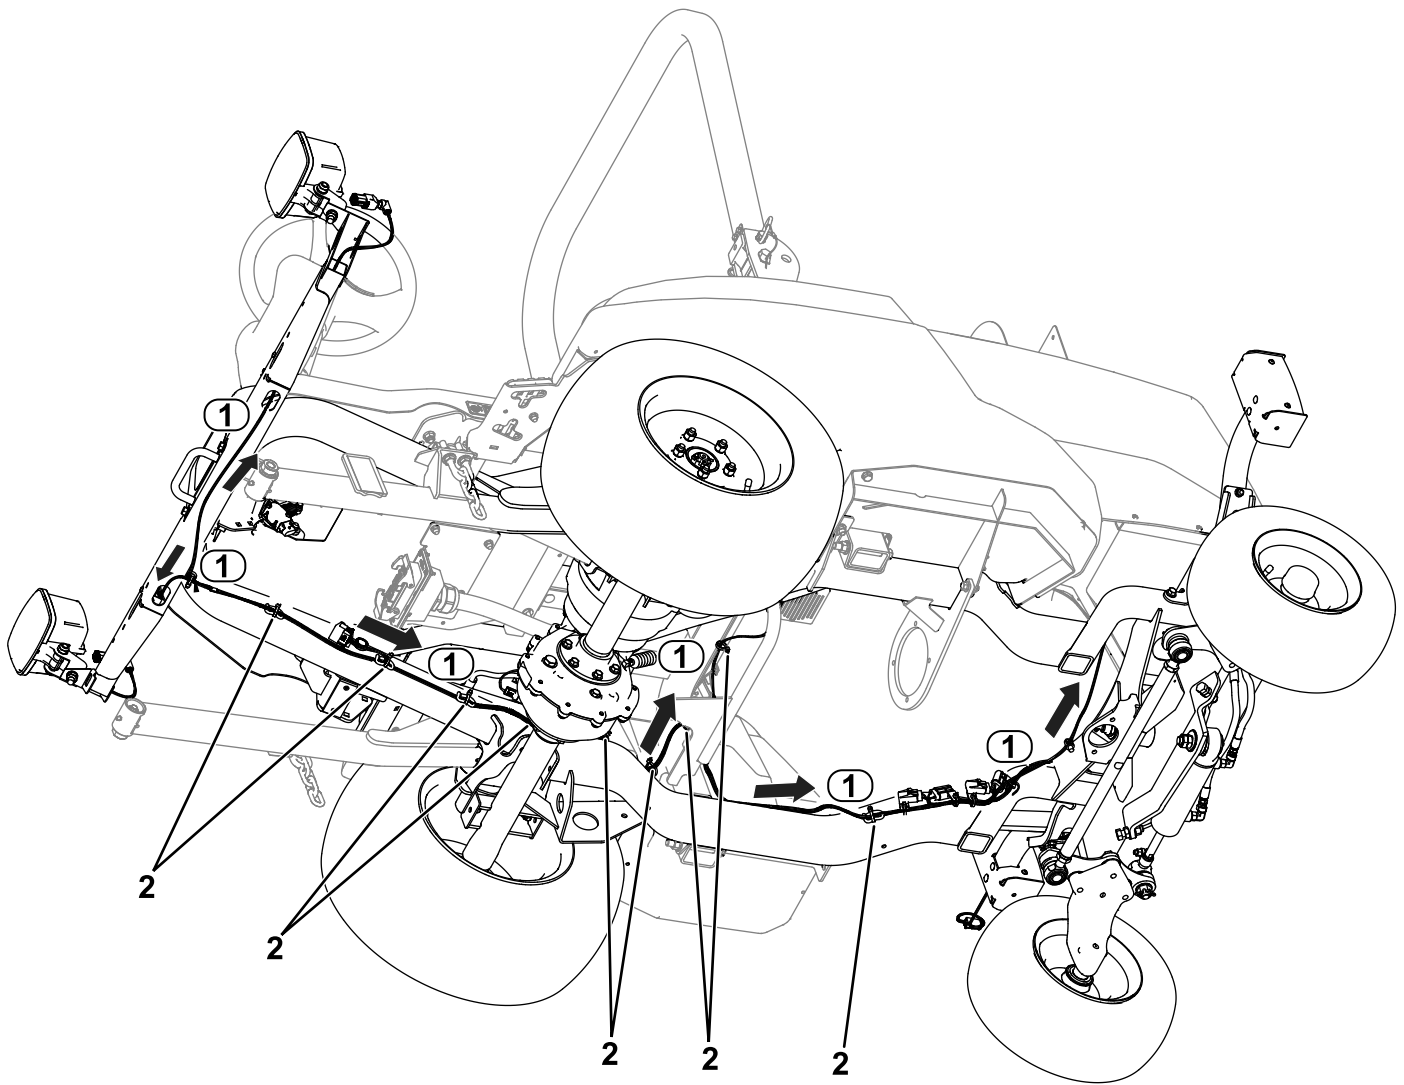

Figure 28
1. Route the wire-harness connector labeled LH HEADLIGHT (P04) to the left side of the unit (Figure 28). Connect the harness to the light.
2. Route the wire-harness connector labeled RH HEADLIGHT (P05) to the right side of the unit (Figure 28). Connect the harness to the light.
3. Route the wire-harness connector labeled LH REAR LIGHT (P01) to the rear left side of the unit (Figure 28).
4. Route the wire-harness connector labeled RH REAR LIGHT (P02) to the rear right side of the unit (Figure 28).
- Connect the wire-harness connector labeled LH REAR LIGHT (P01) to the rear light (Figure 28).
- Connect the wire-harness connector labeled RH REAR LIGHT (P02) to the rear light (Figure 28).
- Install cable ties to the wire harness as shown in Figure 28.